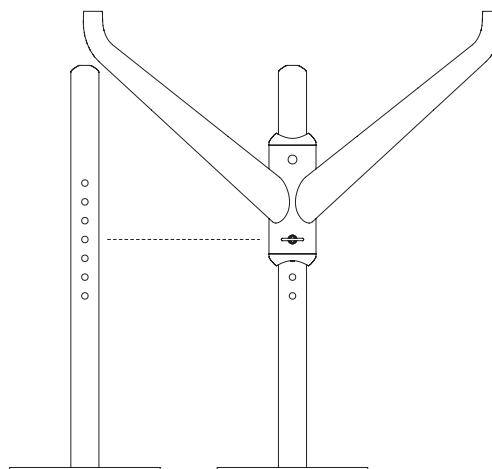

Figure 5
5. For Pin-Height Adjustable Tables, the pin should be in the center upright hole for standard 29" tabletop height (Figure 5).